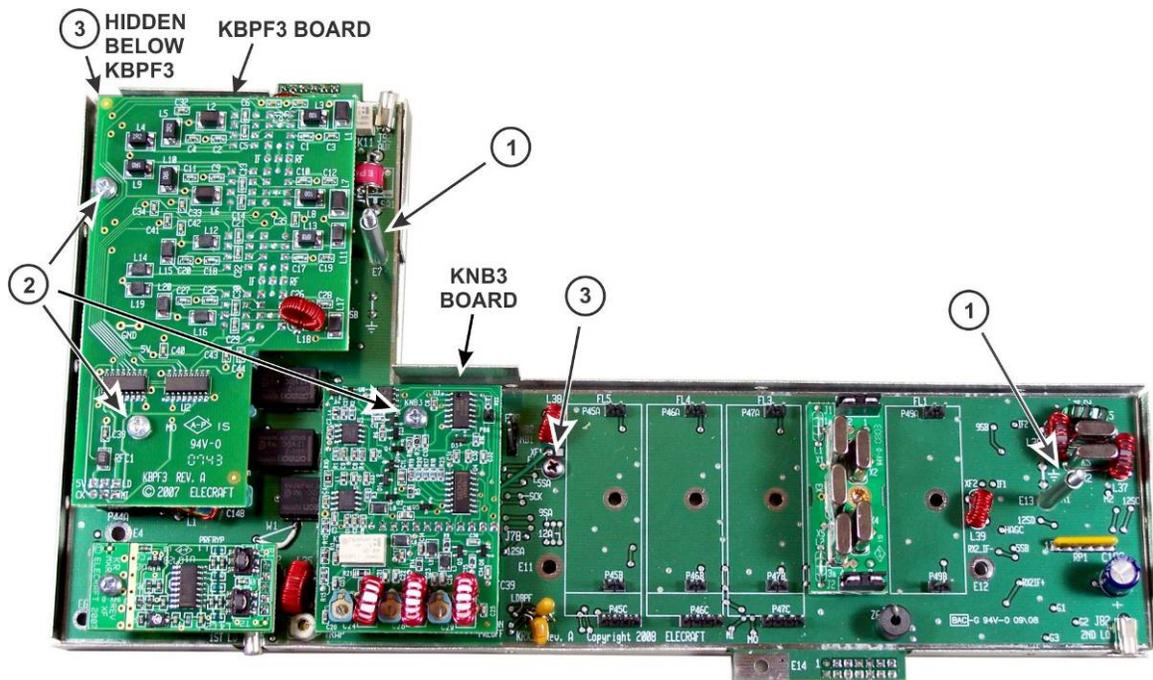

Figure 8. Removing the Main Board from the Enclosure.
- Remove the main pc board from the lower half of the enclosure as follows (see Figure 8):
- Remove the two sleeves (1) from the long screws.
- Remove the two screws and lock washers holding the KBPF3 board and the screw and lock washer holding the KNB3 board (2) and unplug them from the main sub receiver board.
- Remove the two screws (3) securing the KRX3 main board to the bottom half of the enclosure. These screws thread into bushings attached to the enclosure with screws. If a screw seems to turn without loosening, hold the corresponding screw on the bottom of the enclosure so it cannot turn.